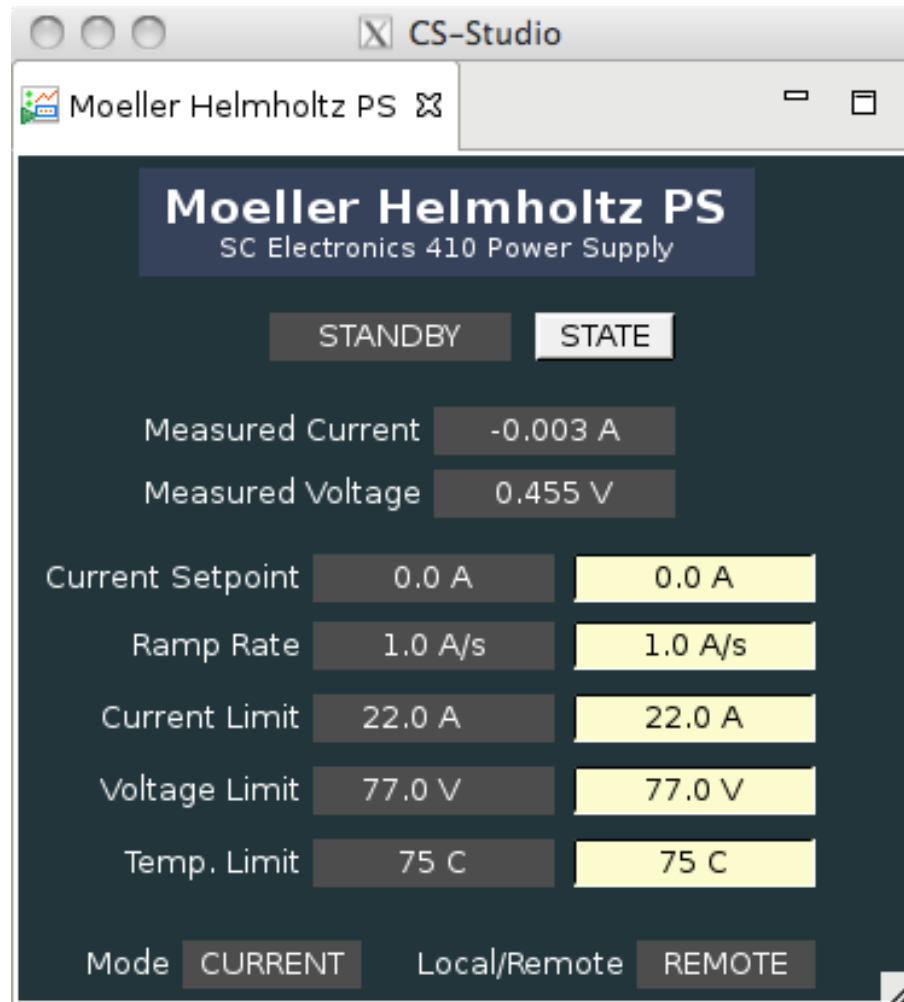

Figure 3: Control GUI for the Möller target Helmholtz coils power supply.
- The target is polarized to its saturation by a longitudinal (along the beam) magnetic field generated using pair of Helmholtz coils. It is expected that the target will be saturated at ~ 1.8 A current in the coils. The recommended current for Möller measurement is 3.5 A. A GUI for power supply of Helmholtz coils, "Moeller Helmholtz PS" see Fig.3, has two controls, button "STATE" defines state of the power supply. Typically it will be in "STANDBY" state when is not used. To energize coils first from the menu in "STATE" chose PS ON, then in "Current Setpoint", a white window, write the value, either 3.5 A or -3.5 A. Beam polarization measurements with both orientations the Helmholtz field is recommended to check systematics.